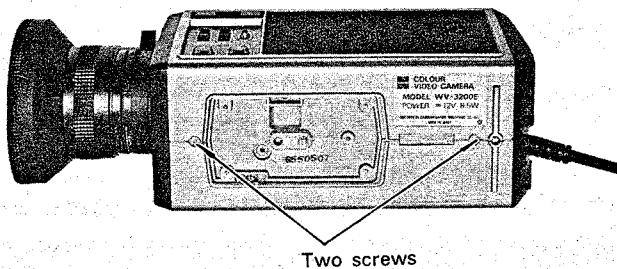

Fig. 2-1-6
- Loosen the two screws on the bottom holding the bottom edges. (Fig. 2-1-6)